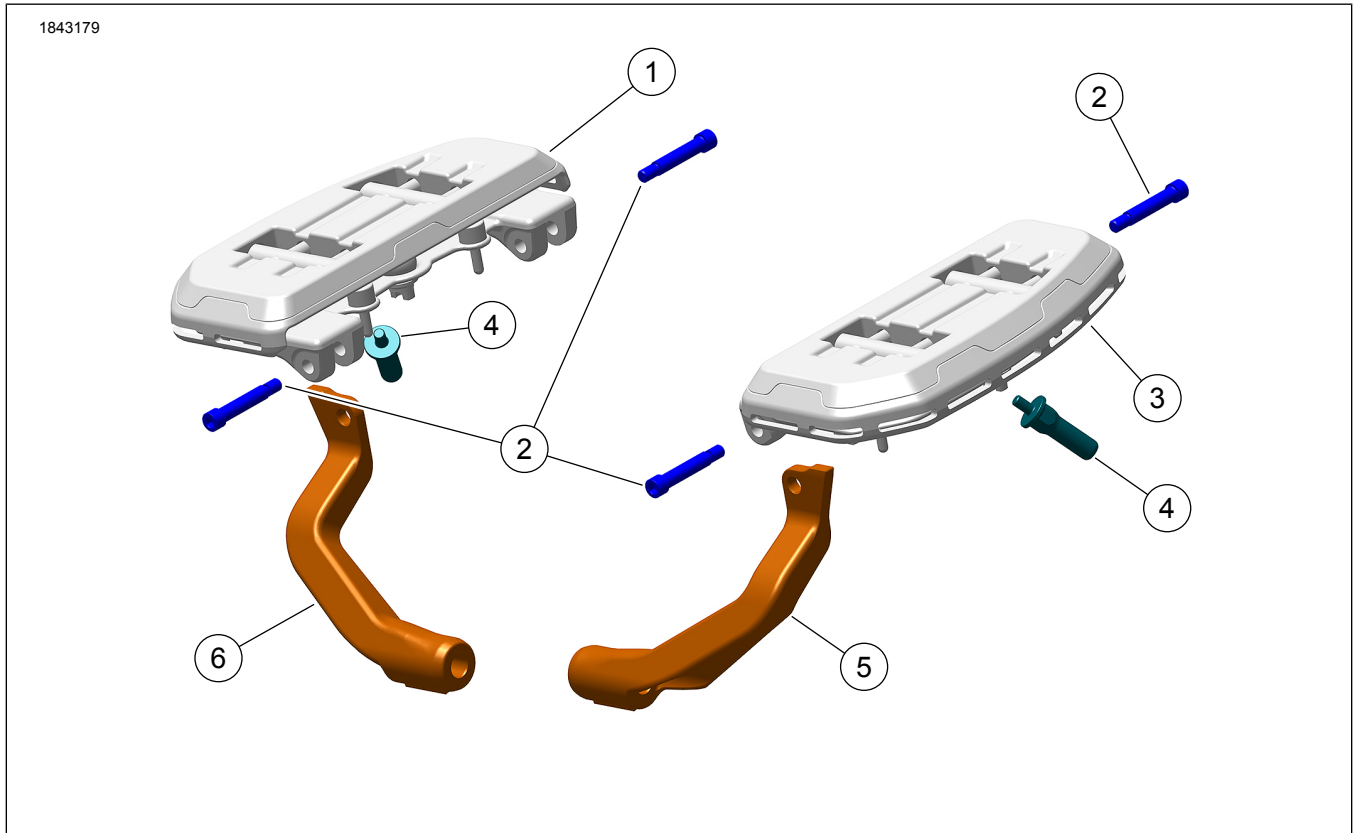

Figure 1. Kit Contents: Footboard
2. See Figure 1. Install **new** support brackets (5, 6) from kit.